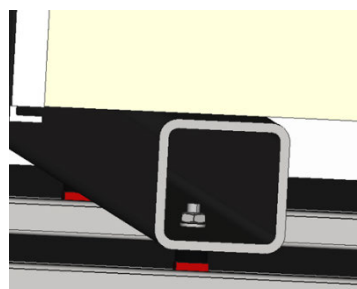

Figure 4 – Stardust rail fixation
- Interference have been detected between the experiment pipes, rail and tension cables. The easiest solution is to move the experiment further in the centre as shown in Figure 4.